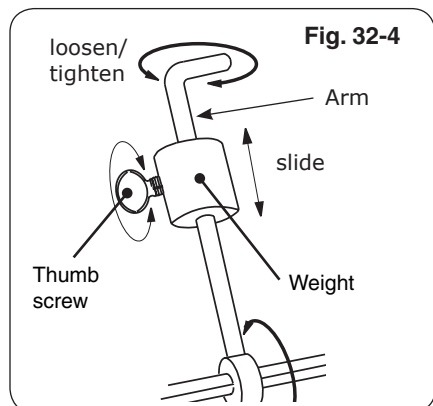

Fig. 32-4
7. Slide the counterbalance weight up or down the arm until the rod rotates most evenly then tighten thumb screw (Fig. 32-4 and Fig. 32-5).